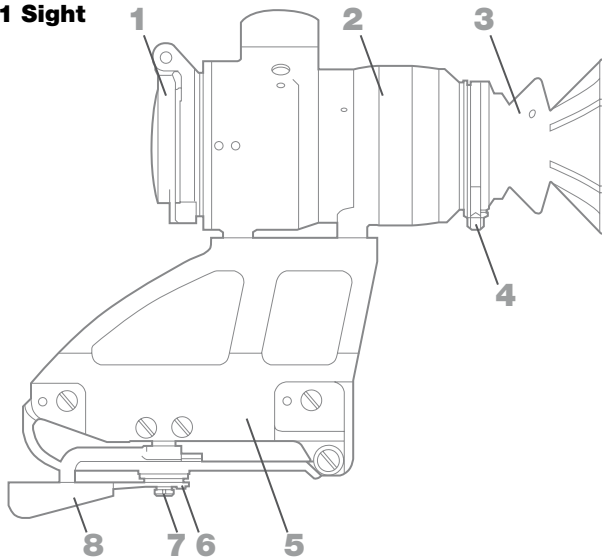

Figure 2 - P02,8x18 S1 Sight
4.6 Elevation and windage adjustment mechanisms covered with threaded caps 1, 2 (Figure 2) are intended for alignment of the sight with a weapon and have a discrete shift with fixation.